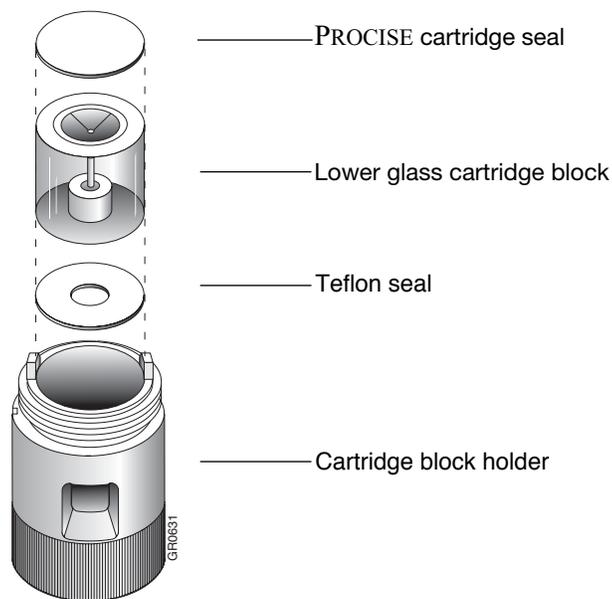

Figure 3-2 Reassembling the lower portion of the reaction cartridge
8. Referring to Figure 3-2 on page 3-11, place the Teflon™ seal back into the cartridge block holder if it came out during disassembly.
8. Referring to Figure 3-2 on page 3-11, place the Teflon seal back into the cartridge block holder if it came out during disassembly.